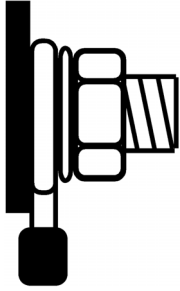

Figure 6 DC Cable Connections
Refer to Figure 6.
11. Install the lock washer and nut that are supplied with the inverter. Tighten the nut to a torque of 108–120 in-lbf (12.2–13.6 N-m). Make the connection snug enough so the ring terminal does not move around on the DC terminal, but do not overtighten. See Figure 6, “DC Cable Connections” on page 25.